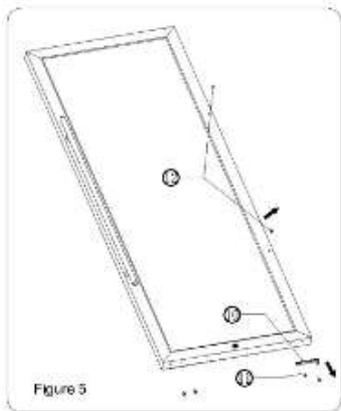
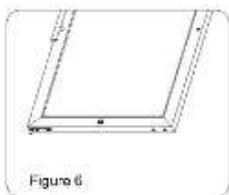

Figure 5
Figure 6
- 4 Remove the door handle screw. Then, remove the bottom screw of the left side of the door and remove the lower door support (Fig 5). Install the lower door support on the opposite side (Fig 6).